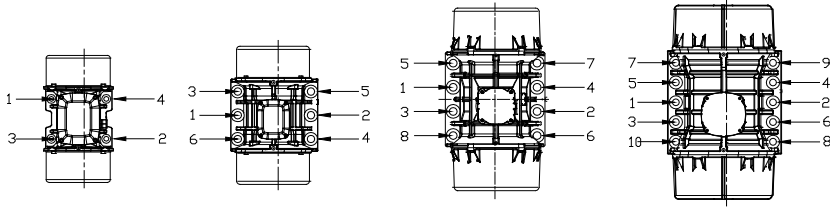

Figure 2 Fastening bolt tightening sequence
5、 The four foot bolts of the vibration motor should be selected according to the hole on the frame with a high-strength bolt of not less than 8.8 class, Use a wrench to securely fasten and adopt anti-loose measures. Do not looseness. SIZE10~50 should adopt a flat pad anti-loose structure. SIZE60~130 should generally be fastened with a flat pad and double nut to prevent looseness. Tighten the mounting bolts according to the Figure 2. Failure to tighten in the specified order may cause damage of the vibration motor. Thread glue should be applied to all bolts before installing the vibration motor on the mounting plate.